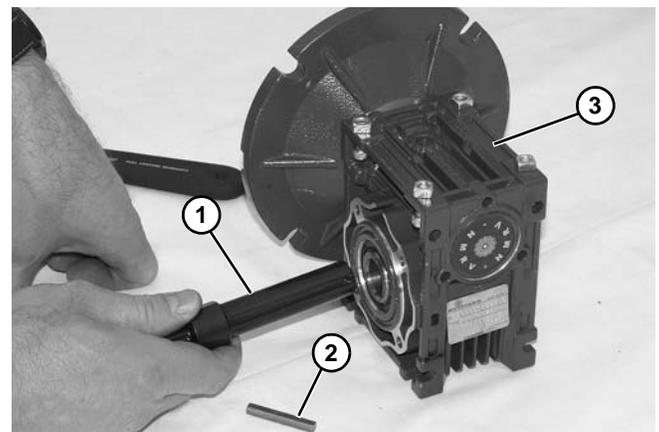

Figure 31
- Remove driveshaft (**Figure 31, item 1**) and key (**Figure 31, item 2**).
- Replace gear reducer (**Figure 31, item 3**).
6. Replace the original shaft components into new gear reducer (**Figure 31**).